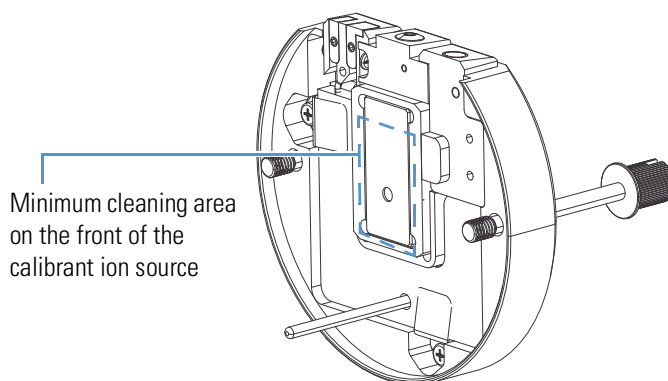

Figure 8-6. Front of the IC Source heater interface
3. Clean the front of the IC Source heater interface with the swabs, as shown in Figure 8-6.